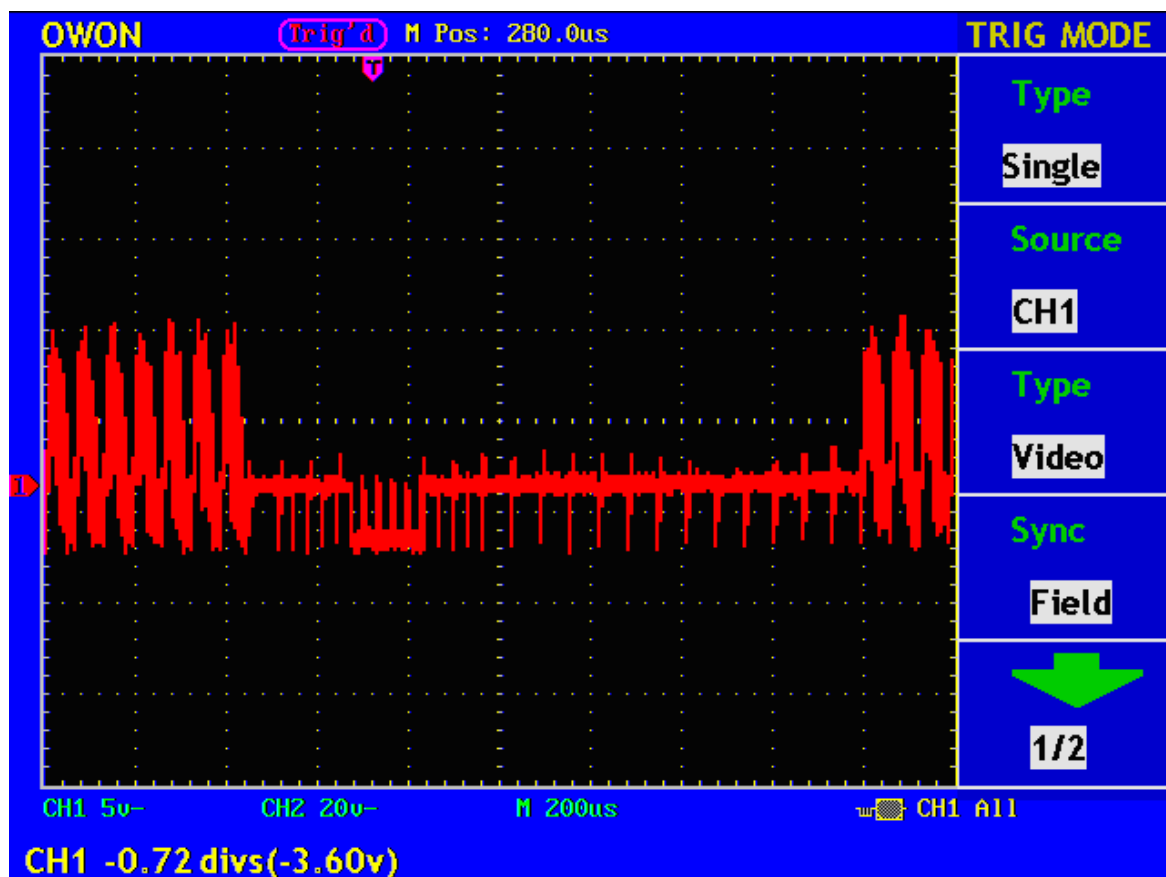

Fig. 61 Wave Form Obtained from Video Field Trigger
6. Adjust the **VOLTS/DIV**; **VERTICAL POSITION** and **SEC/DIV** knobs to obtain a proper wave form display (see Fig. 61).